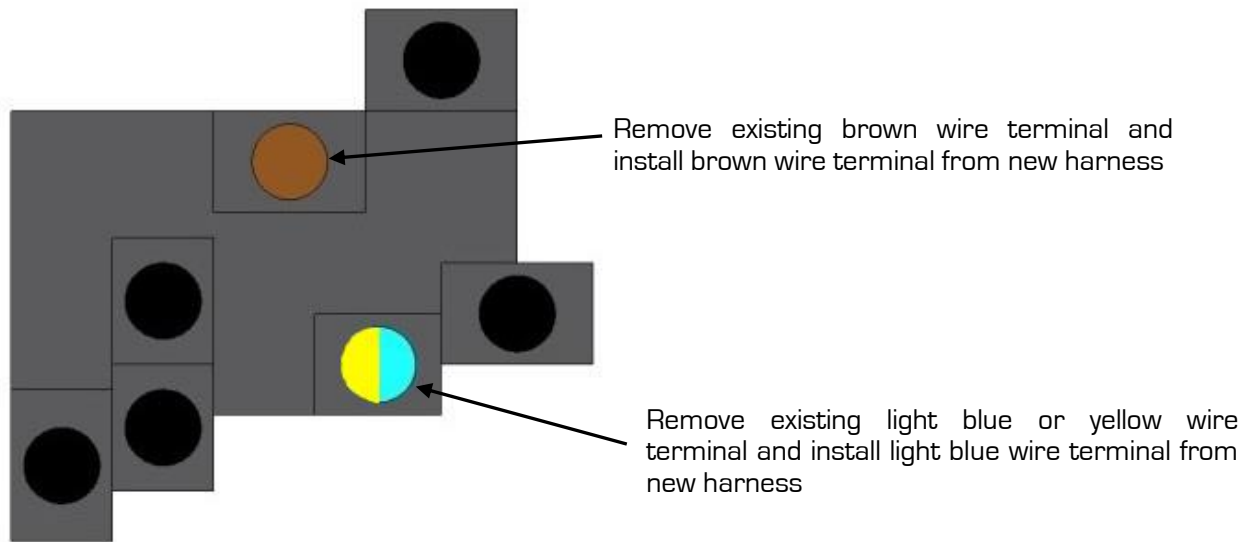

Figure 34 – End View (Harness Side)
31. The light blue or yellow wire is the 12 volt headlamp feed and the brown wire is the park lamp feed. There may be more than one brown wire in the connector so be sure to remove the correct one (Figure 34).